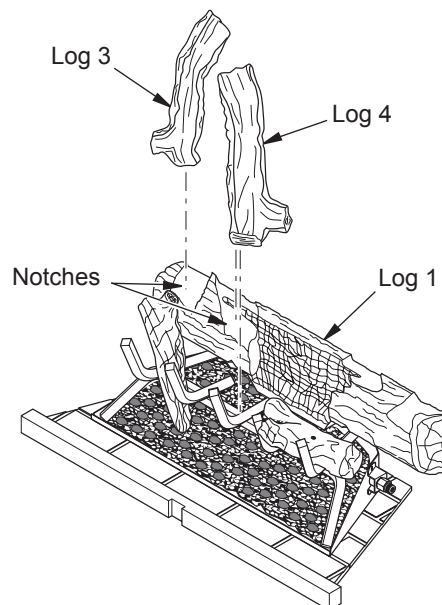
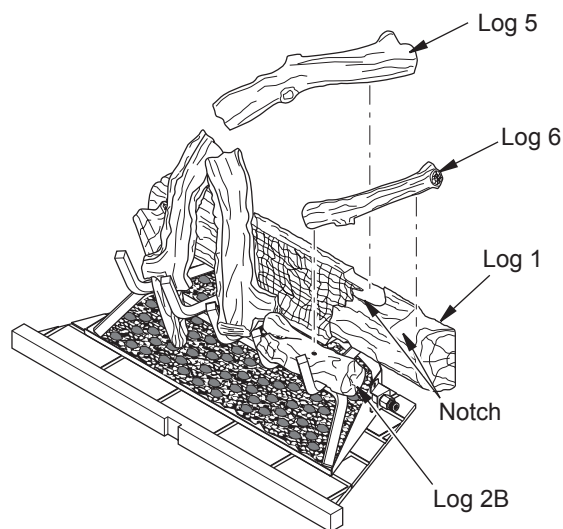
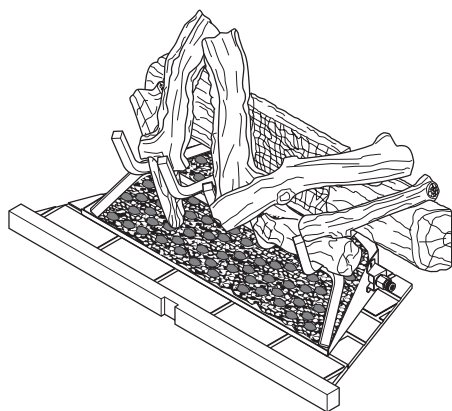

Figure 30 - Installing Logs 3 and 4
Figure 31 - Installing Logs 5 and 6
Figure 32 - Logs Installed for M42, M42P, VM42 and VM42P Models
- Place log 3 into notch on top left of log 1, resting the lower end on the left two grate fingers (see Figure 30).
- Place the upper end of log 4 into the notch on log 1 as shown in Figure 30. Rest the lower end of log 4 on the middle grate finger as shown in Figure 31.
5. Place the upper end of log 5 into the notch on the top inner right of log 1 (see Figure 31). Rest the lower end of log 5 on the middle grate finger as shown in Figure 32.
6. Place log 6 into the notch on the top right of log 1 (see Figure 31). Rest the lower end of log 6 on top of log 2B (see Figure 32).